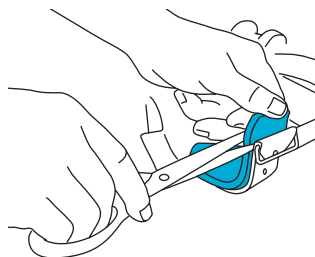

Fig. 3
- One at a time, firmly hold each strap near the rivet and rotate it 180° (Fig. 3). Reinsert each strap into the slot.
- If necessary, trim the gray foam padding so that it does not extend beyond the bracket (Fig. 3).